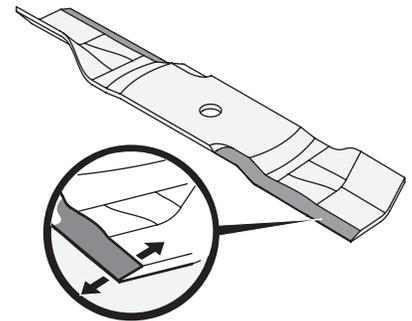

Figure 4-18
- To properly sharpen the cutting blades, remove equal amounts of metal from both ends of the blades along the cutting edges, parallel to the trailing edge, at a 25°-30° angle. Always grind each cutting blade edge equally to maintain proper blade balance. See Figure 4-18.